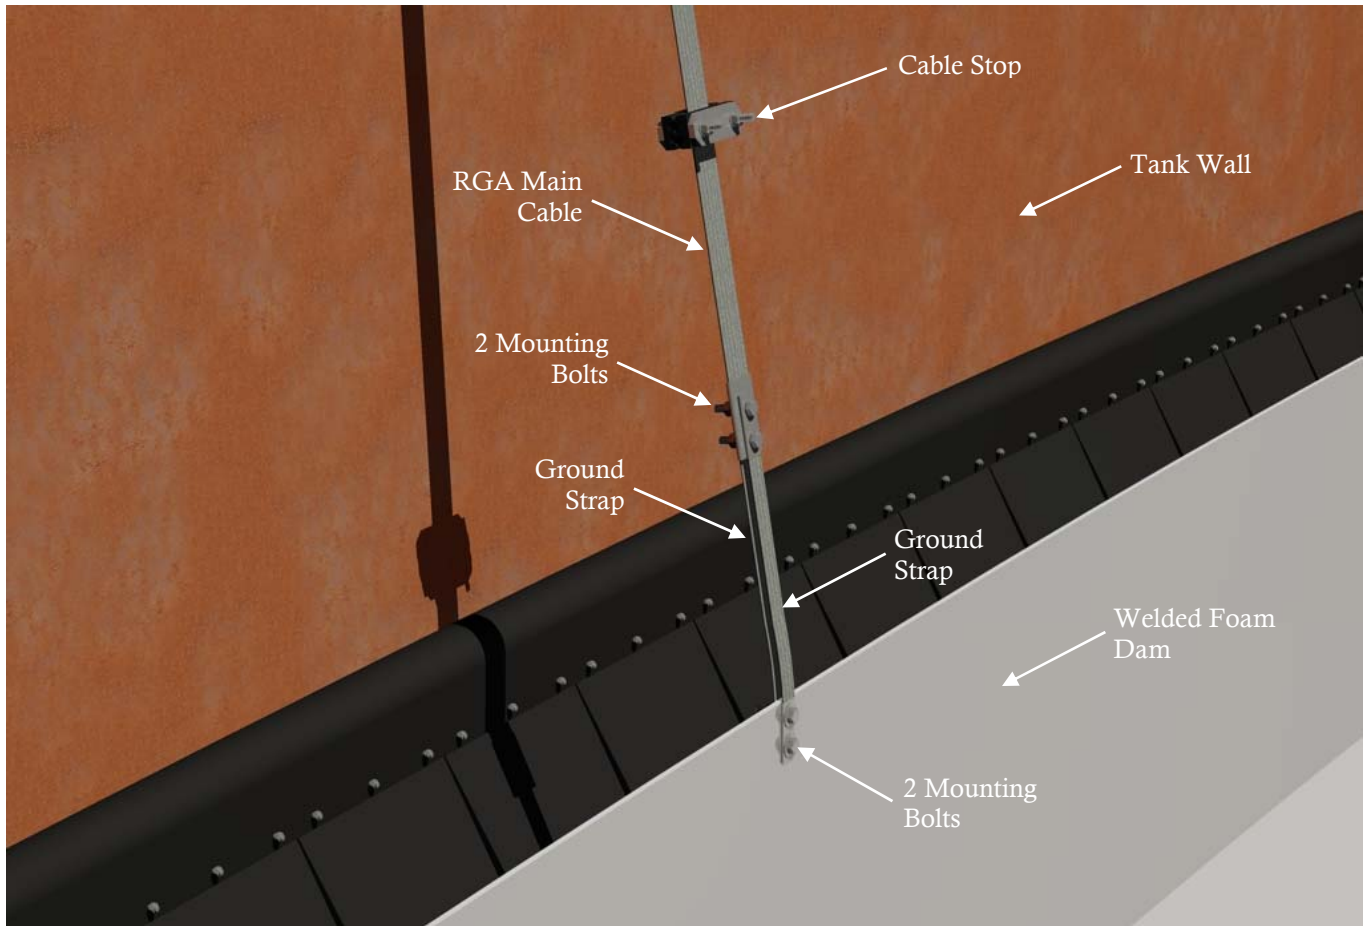

Figure 5: Ground straps on either side of welded foam dam
- 4.2.2 Ensure that two straps are securing the main cable to the foam dam/floating roof. One strap should be used on each side of the main cable and each side of the foam dam/floating roof connection point, as shown above in Figure 5, in order to ensure sufficient electrical contact area at the connection points.